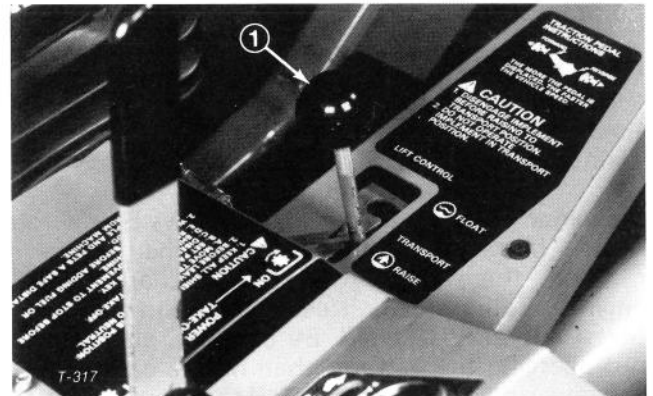
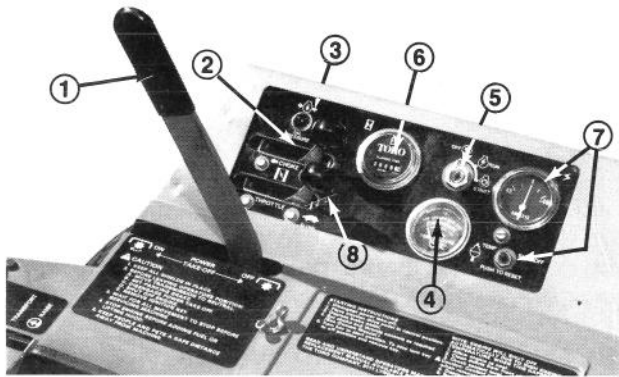

Figure 21
Figure 22
Lift Lever (Fig 21) — The hydraulic lift lever has three positions; FLOAT, TRANSPORT and RAISE. To lower implement to the ground, move lift lever forward into notch, which is the FLOAT position. The FLOAT position is used for operation and also when machine is not in operation. To raise implement, pull lift lever backward to the RAISE position. After implement is raised, allow lift lever to move to the TRANSPORT position. Normally, implement should be raised when driving from one work area to another, except when descending steep slopes.
PTO Lever (Fig. 22) — The PTO lever has two positions; ON, engage and OFF, disengage. Slowly push PTO lever fully forward to ON position to start the implement or cutting unit blades. Slowly, pull lever backward to OFF position to stop implement operation. The only time PTO lever should be in the ON position is when implement or cutting unit is down in operating position.
Oil Pressure Warning Light (Fig. 22) — The oil pressure warning light will glow and a buzzer will sound when oil pressure in engine drops below a safe level. If low oil pressure ever occurs, stop engine and determine the cause. Repair the damage before starting the engine again.
Hour Meter (Fig. 22) — The hour meter registers accumulated hours of engine operation. Use the hour meter to determine intervals for service maintenance and lubrication.
Ammeter (Fig. 22) — Ammeter shows charge rate of the battery by the alternator. When engine is running, there usually is a slight charge, unless engine is idling slowly. Needle will point to 0 when battery is fully charged. By contrast, alternator is not charging the battery when needle points to (-) negative side of ammeter, and if this happens, repair the charging system to prevent discharge of the battery.
Temperature Switch/Gauge and Reset Button (Fig. 22) — The temperature switch/gauge registers the temperature of the coolant in the cooling system. If temperature of coolant gets too high the engine will shut off automatically. When this happens, rotate ignition key to OFF. Automatic shut-off of the engine usually results from debris on front of screen or radiator, which reduces air flow. After cleaning outside of screen and radiator or repairing some other damage, press the reset button and start the engine.
Ignition Switch (Fig. 22) — The ignition switch, which is used to start and stop the engine, has three positions; OFF, RUN and START. Rotate
Choke (Fig. 22) — To start a cold engine, close carburetor choke by moving choke control fully forward. After engine starts, regulate choke to keep engine running smoothly. As soon as possible, open the choke by pulling it backward.
Throttle (Fig. 22) — Throttle is used to operate engine at various speeds. Moving throttle forward increases engine speed — FAST; backward decreases engine speed — SLOW. The throttle regulates the speed of the cutter blades or other implement components and, in conjunction with traction pedal, controls ground speed of the traction unit.
1. Insure parking brake is set, PTO lever is in OFF position (Fig. 22) and lift lever is in TRANSPORT or FLOAT position (Fig. 21). Remove foot from traction pedal and assure it is in neutral.
2. Move throttle control (Fig. 22) to 1/4 - 1/3 open position.
3. To start engine, move choke lever (Fig. 22) fully forward.
4. Insert key into ignition switch (Fig. 22) and rotate it clockwise to START position. Hold key in START position for a few seconds to energize ignition system. Release key immediately when engine starts and regulate choke to keep engine running smoothly.